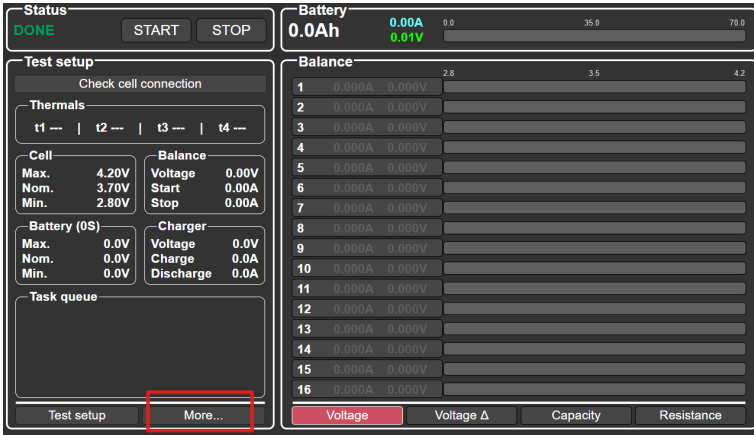

Figure 30
1. In the main menu of the tester, press the “More...” button (see Fig. 30).